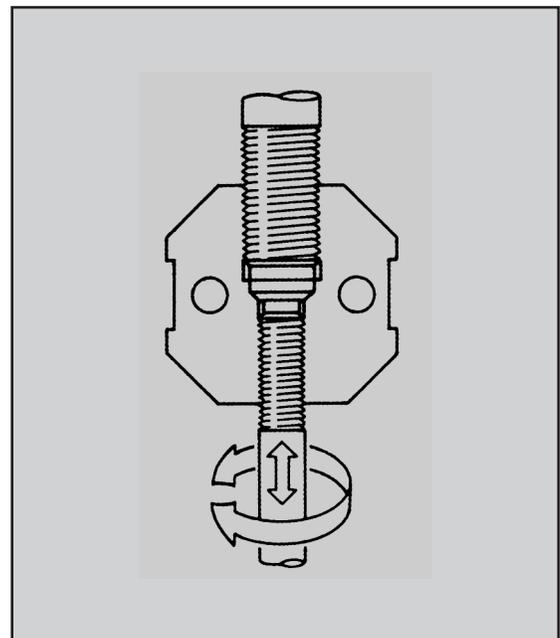

Figure 6: Stem clamp, connection between actuator and valve stem
6. Attach the stem connector (figure 6) at this point, making sure that there is full engagement of the threads on the stem and the stroke indicating pointer faces the lowest marking on the stroke indicator plate with the plug in fully closed position. Fully tighten the stem clamp cap screws.